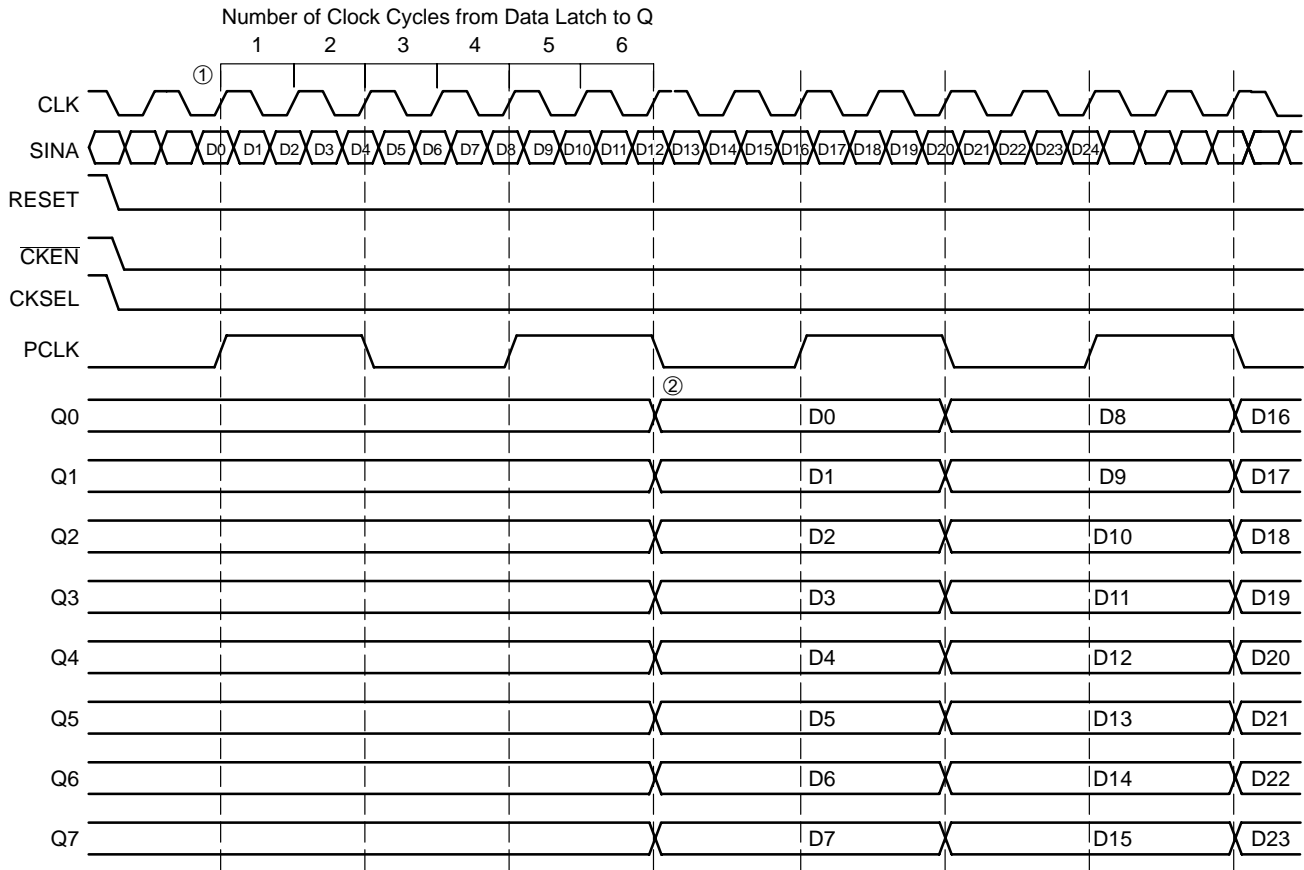

Figure 7. Timing Diagram A. 1:8 Serial to Parallel Conversion with CKSEL LOW
from when the serial data is latched^① to when the data is seen on the parallel output^② is 6 clock cycles (see Figure 7).